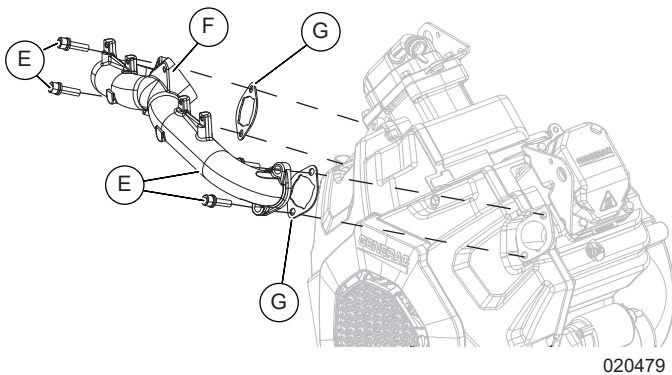

Figure 6-14. Remove Intake Manifold
2. Remove exhaust manifold (D).
3. Discard old gaskets (C). Use new gaskets when assembling.
4. See Figure 6-14. Remove four bolts (E) and intake manifold (F) from the cylinder heads. Discard intake manifold gaskets (G).